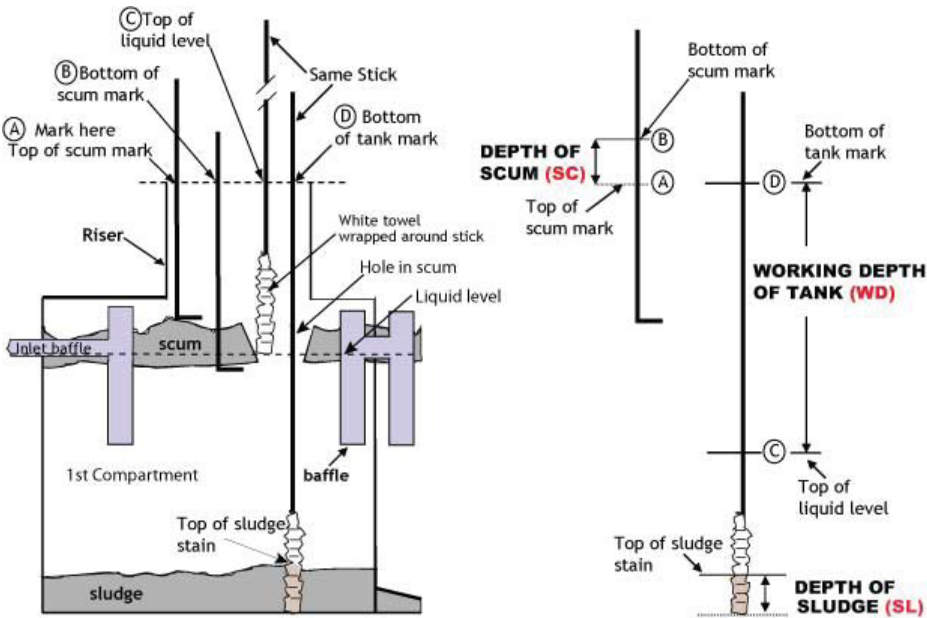

FIGURE 1 - SCUM DEPTH (SC), SLUDGE DEPTH (SL) AND WORKING DEPTH OF TANK (WD)
3. Place the scum stick down the manhole of the first compartment of the tank until it rests on top of the scum layer (see Figure 1) and mark the scum stick where it crosses the reference point (A).
5. Mark the scum stick where it crosses the reference point (B).
6. Remove the scum stick and measure the distance between the two marks. This is the thickness of the scum layer (SC).
4. Carefully lower stick through the hole in scum in first compartment until it rests on top of the liquid layer. Mark the stick where it crosses the opening of the manhole or riser (C in Figure 1).
6. Mark the sludge stick where it crosses the board (D in Figure 1). The distance between the two marks (C and D) is the working depth of the tank (WD).
7. Carefully remove the stick. There should be a distinct dark stain on the rag. Measure the height of the stain. This is the depth of the sludge layer (SL).